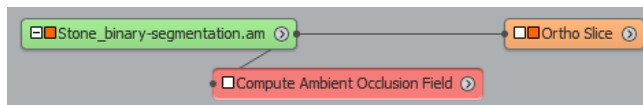

Figure 6.94: Computation of the ambient occlusion field workflow in pool
- Click on the *Stone_binary-segmentation.am* object in the object pool with the right mouse button and type the word *Ambient* into the search line of the popup dialog. Select the *Compute Ambient Occlusion* entry. As result, a new red object appears in the object pool (see Figure 6.94).